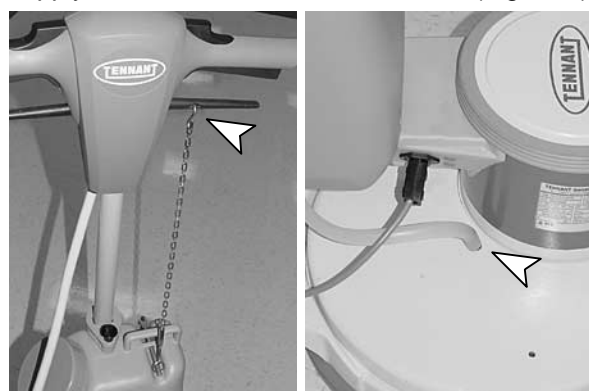

FIG. 4
3. Connect the chain to the solution control lever. Connect the solution feed tube to the solution supply connector on the machine base (Figure 4).